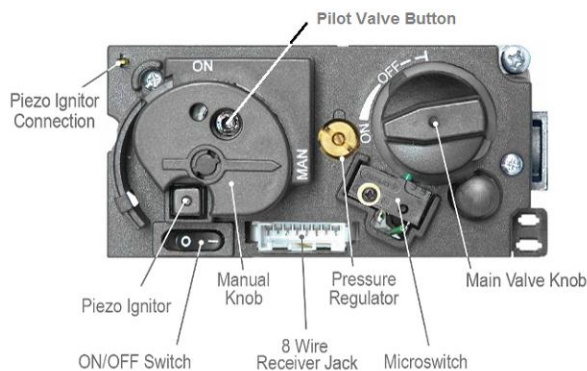

Figure 18 – GV60 Valve Configuration (Top)
- Locate and turn the MANUAL Knob on the valve clockwise to the "MAN" position (see Figure 18).
- Once the pilot lights, continue holding the Pilot Button for one (1) minute. Release the Pilot Button and the pilot flame should remain on.